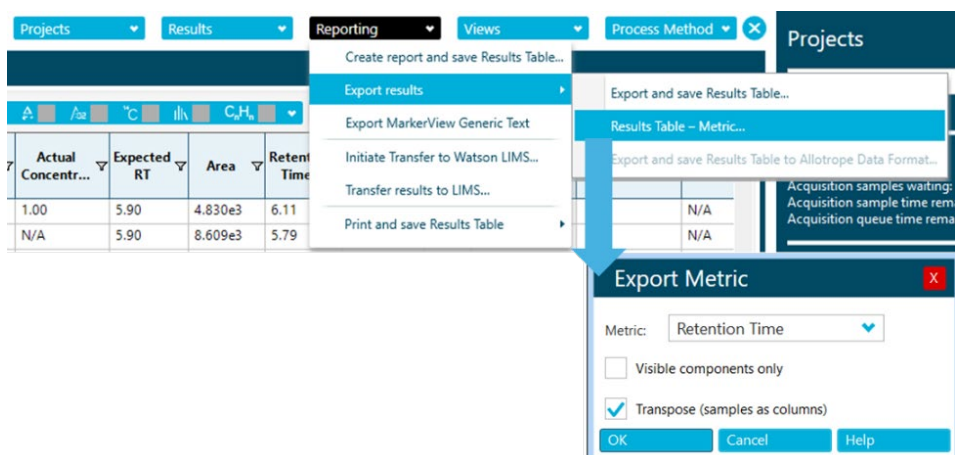

Figure 9.2. Exporting the Results Table Metrics from SCIEX OS Software for use in sMRM Pro Builder.
7. Process the data in SCIEX OS Software [Section 8], then export the results for analysis in the sMRM Pro Builder. Select Reporting → Export Results → Results Table – Metric, then export the Area, Retention Time, and Width at 50%, as shown in **Figure 9.2**.